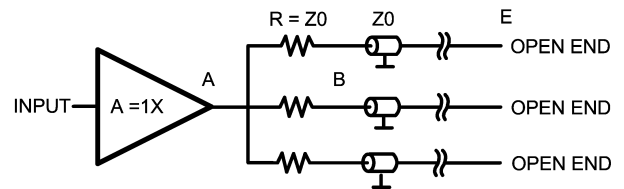

FIGURE 3.
- Use one buffer to drive several transmission lines each driving a different receiver. (see *Figure 3*)
Another way to reach several points via a transmission line is to start several lines from one buffer output (see Figure 3). This is possible only if the output can deliver the needed current into the sum of all transmission lines. As can be seen in this figure there is a series termination used at the beginning of the transmission line and the end of the line has no termination. This means that only the signal at the endpoint is usable because at all other points the reflected signal will cause distortion over the line. Only at the endpoint will the measured signal be the same as at the startpoint. Referring to Figure 6 trace C, the signal at the beginning of the line has a value of $V/2$ and at $T = 0$ this voltage starts traveling towards the end of the transmission line. Once at the endpoint the line has no termination and 100% reflection will occur. At $T = 10$ the reflection causes the signal to jump to 2V and to start traveling back along the line to the buffer (see Figure 6 trace D). Once the wavefront reaches the series
termination resistor, provided the termination value is Z_0 , the wavefront undergoes total absorption by the termination. This is only true if the output impedance of the buffer/driver is low in comparison to the characteristic impedance Z_0 . At this moment the voltage in the whole transmission line has the nominal value of 2V (see Figure 6 trace E). If the three transmission lines each have a different length the particular point in time at which the voltage at the series termination resistor jumps to 2V is different for each case. However, this transient is not transferred to the other lines because the output of the buffer is low and this transient is highly attenuated by the combination of the termination resistor and the output impedance of the buffer. A simple calculation illustrates the point. Assume that the output impedance is 5Ω . For the frequency of interest the attenuation is $V_B/V_A=55/5=11$, where A and B are the points in Figure 3. In this case the voltage caused by the reflection is $2/11 = 0.18V$. This voltage is transferred to the remaining transmission lines in sequence and following the same rules as before this voltage is seen at the end points of those lines. The lower the output resistance the higher the decoupling between the different lines. Furthermore one can see that at the endpoint of these transmission lines there is a normal transient equal to the original transient at the beginning point. However at all other points of the transmission line there is a step voltage at different distances from the startpoint depending at what point this is measured (see trace D).